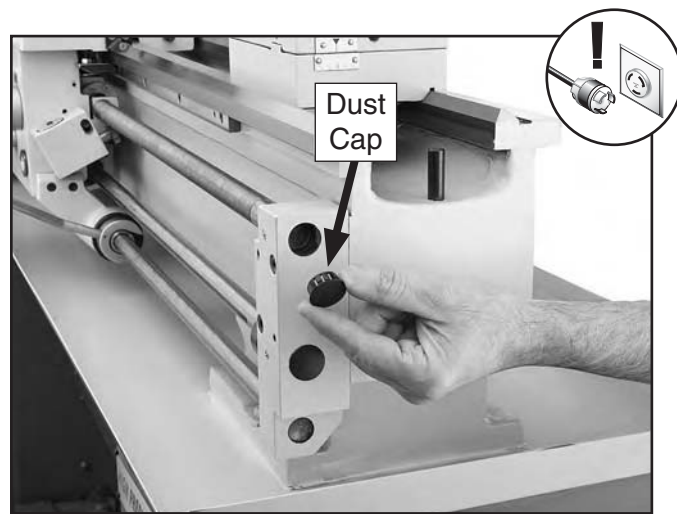

Figure 139. Removing leadscrew dust cap.
2. Remove the leadscrew dust cap from the end bracket, as shown in **Figure 139**.